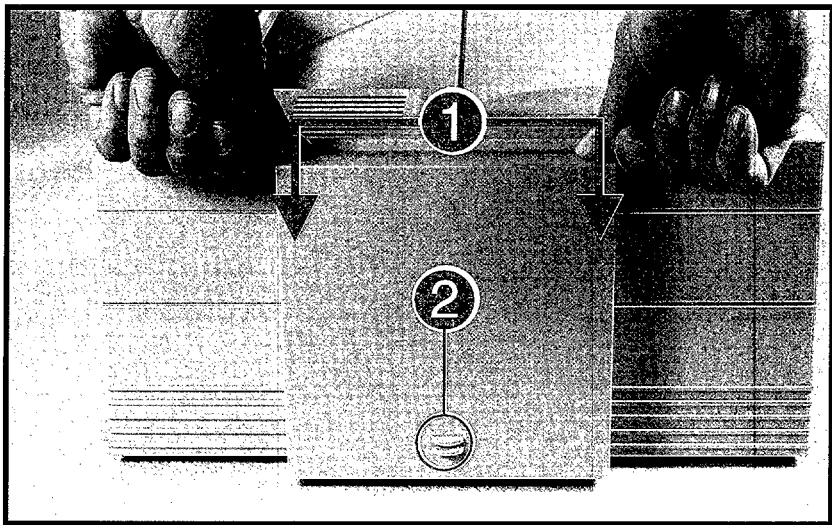

Figure 6-3 Removing the SIMM Access Panel (LaserJet 4P/4MP)
1. Push downward forcefully on top of the access panel to release its clips from the main Printer Cover (Figure 6-3, callout 1).
SIMM module can be installed in any available slot. Sequence is irrelevant. Install with the small notch toward the left. To re-install the access panel, hold it in place and lift firmly upward on the thumb grip (Figure 6-3, callout 2) to snap into place.
3. Remove the SIMM access panel and any installed SIMM modules (Figure 6-3).